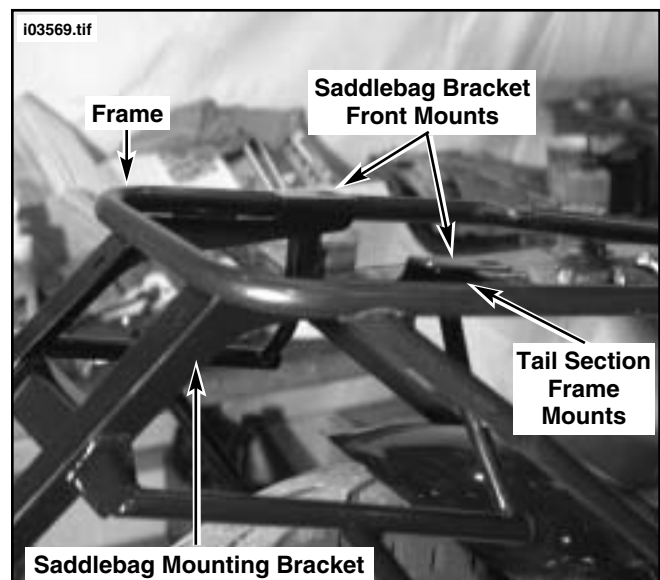

Figure 1. Position Front Upper Portion of Saddlebag Mounting Bracket
- a. See Figure 1. Place front portion of saddlebag mounting bracket in position above tail section frame mounts as shown.